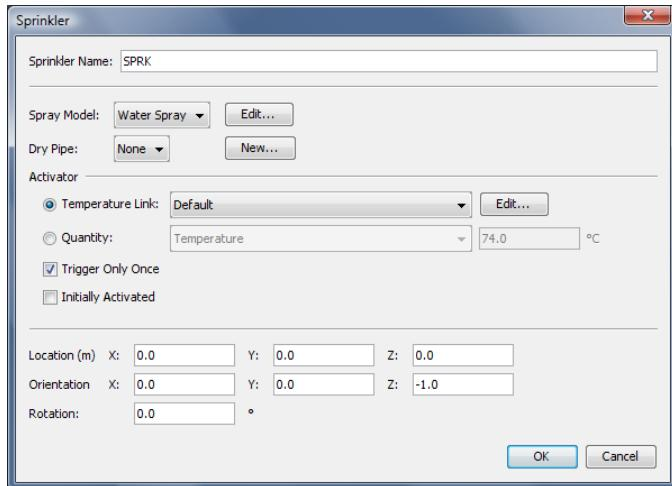

Figure 13.2. Creating a new sprinkler
1. On the **Devices** menu, click **New Sprinkler....** This will display the **Sprinkler** dialog, Figure 13.2.